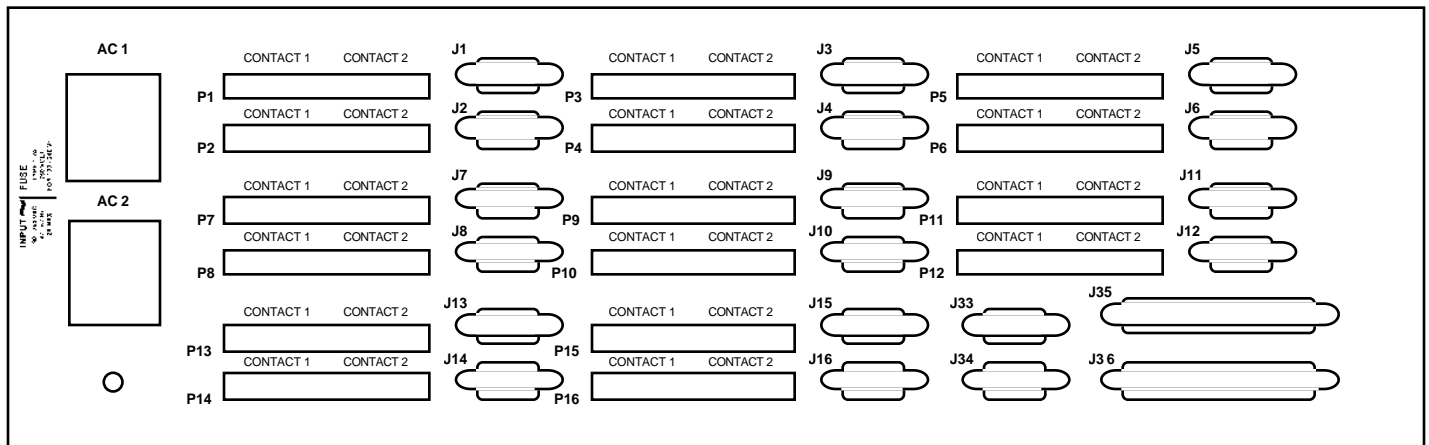

FIGURE 2.1 162 REAR PANEL
2.1 Mechanical - The 162 consists of two switch printed circuit boards (PCB), one interface PCB and one indicator front panel PCB housed in a 3 RU (5 1/4 inch high) by 20 inch deep chassis. Redundant, CE approved, covered, switching, +24 VDC power supplies with the DC output diode OR'd provide redundant power for the relays and LEDs. Connectors are terminal strip (a two section terminal strip with removable screw terminal mating connector) for the contact closure inputs from the on-line encoders, DB9, female, for the signal passed through to the online encoders, DB9, female, for the signals to the secondary encoders, and DB37, female, for the relay switch control closures. The 162 can be secured to a rack using the 4 holes on the front panel. Figure 2.1 shows how the 162 is assembled.